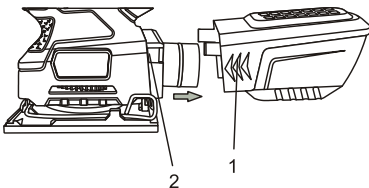

Fig. 2
1. Squeeze the sides of the dust box (1) and pull it away from the rear of the sander (2) (Fig. 2).